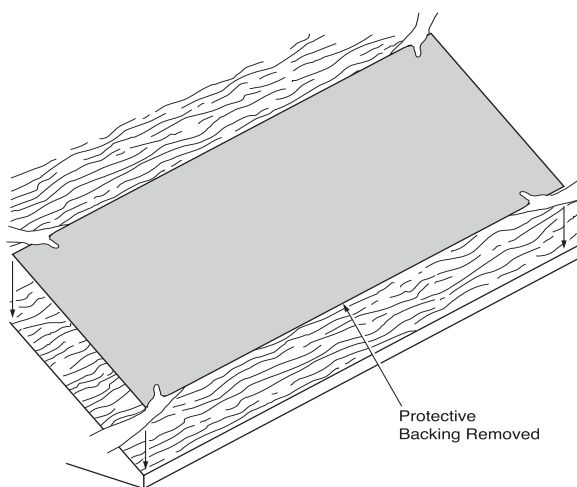

Figure 5-7: Application using the "Fly-In" Method.
4. Drop or "fly" the sheet into place, using great care to assure correct placement (*Figure 5-7*).